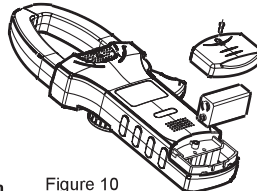

Figure 10
B. Replacing the Battery (See Figure 10)